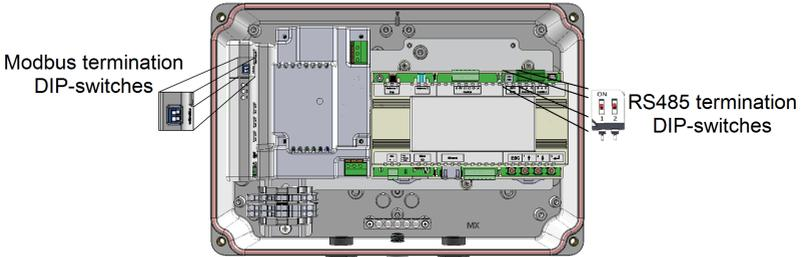

Figure 16: DIP switches
7. Check the DIP Switches located inside the meter(see *Figure 16*):
- Verify that RS485 termination DIP-switches are in the ON (1) position.